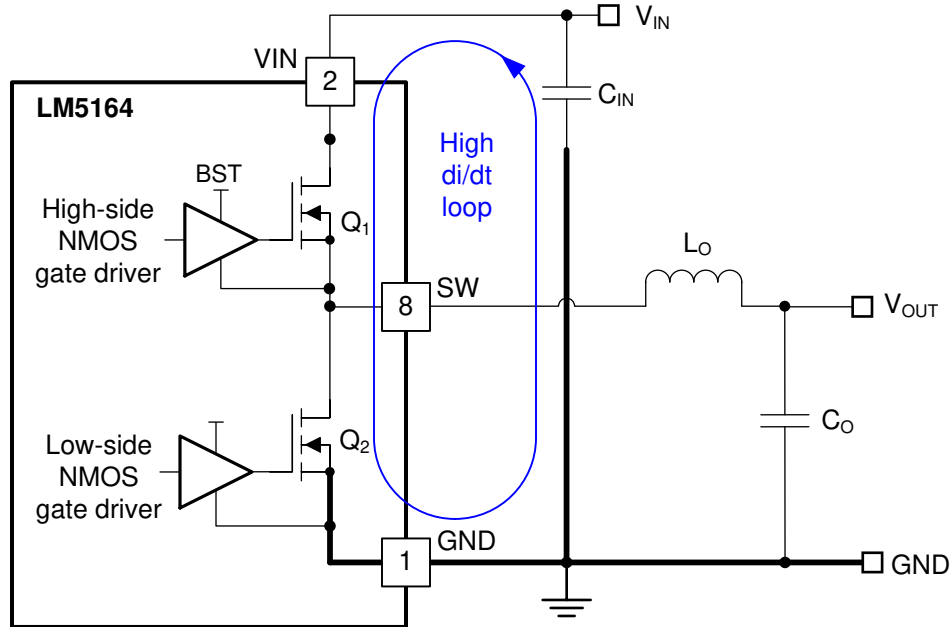

图 10-1. DC/DC Buck Converter With Power Stage Circuit Switching Loop
**Figure 10-1** denotes the critical switching loop of the buck converter power stage in terms of EMI. The topological architecture of a buck converter means that a particularly high di/dt current path exists in the loop comprising the input capacitor and the integrated MOSFETs of the LM5164, and it becomes mandatory to reduce the parasitic inductance of this loop by minimizing the effective loop area.